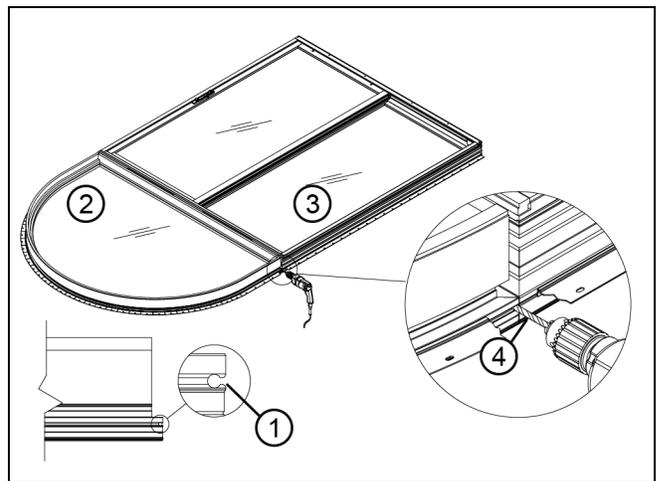

Figure 40
4. Position ELALDGRT on the head jamb of door. Check to be sure that both ends of the ELALDGRT sill are flush with door head jamb. Apply clamps to interior side at each end of head jamb and sill to prevent movement. Use scrap pieces of wood to prevent marring of wood surface. Make sure that nailing fin/drip cap kerfs line up on both ends. See Figure 40.
5. Drill the outer edges of mull kerf located at one side at head jamb of door and sill of transom with a 3/16" (5) drill bit as shown in illustration. This will allow easy application of mulling pin. Be sure to clean filings from the drilled area prior to mull pin installations.